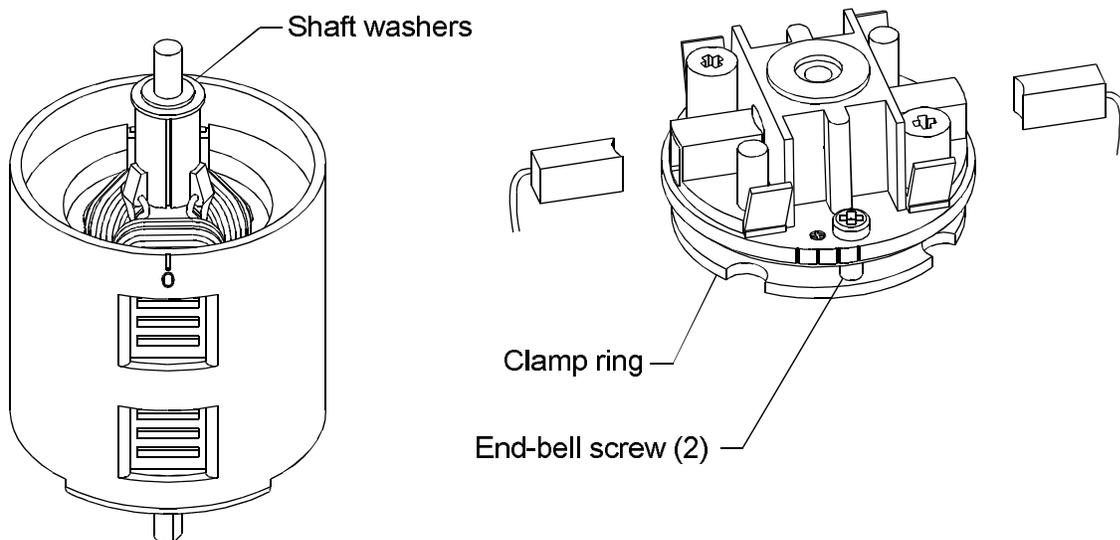

Figure 3-5.
4. Loosen (but do not remove) the end-bell screws. Rotate the end-bell assembly, and pull it off the motor as shown in Fig. 3-5.